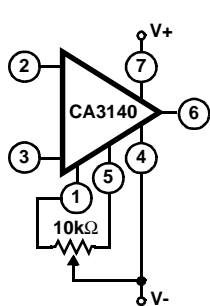

FIGURE 3A. BASIC
The input offset voltage can be nulled by connecting a 10kΩ potentiometer between Terminals 1 and 5 and returning its wiper arm to terminal 4, see Figure 3A. This technique, however, gives more adjustment range than required and therefore, a considerable portion of the potentiometer rotation is not fully utilized. Typical values of series resistors (R) that may be placed at either end of the potentiometer, to optimize its utilization range are given in the Electrical Specifications table.